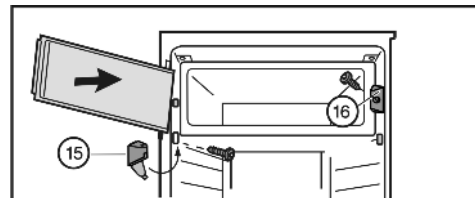

Fig. 12
- ▶ Fit the closing element *Fig. 12 (16)*.
- ▶ Fit the turn hinge *Fig. 12 (15)* and fold the cover.